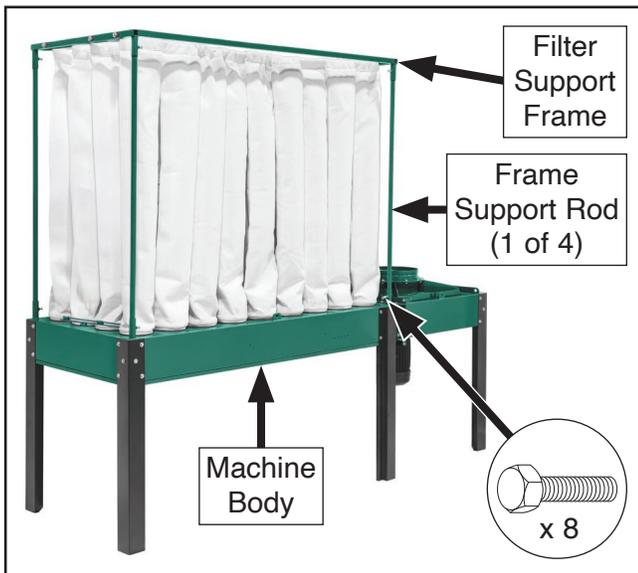

Figure 37. Filter support frame and rods installed on machine body.
23. Attach lifting straps to filter support frame and raise frame, then install (4) frame support rods into corners of machine body and secure with (4) $\frac{3}{8}$ "-16 x 1" hex bolts (see **Figure 37**).
24. Keep filter support frame raised and align rods with holes in frame, then lower frame so rods seat into holes, and secure with (4) $\frac{3}{8}$ "-16 x 1" hex bolts (see **Figure 37**).